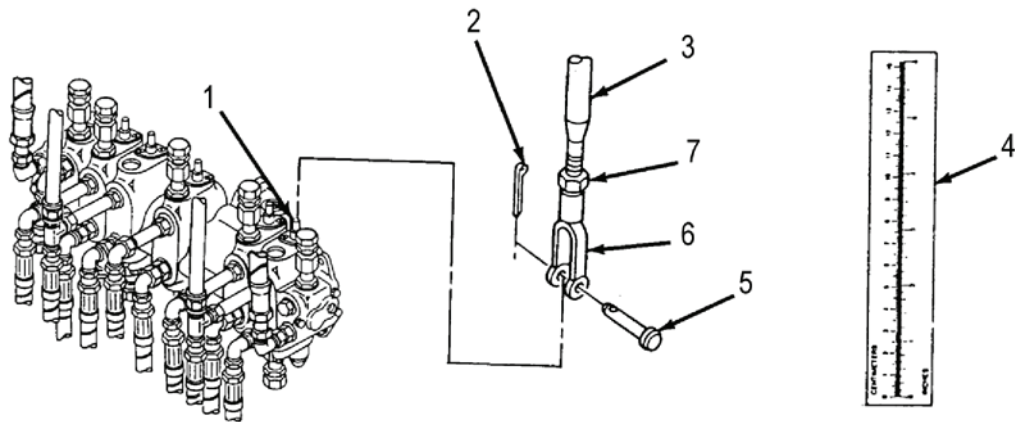

Figure 6. Sprung/Unsprung Control Valve Linkage
- Note position of control valve plunger (Figure 6, item 1) when SPRUNG/UNSPRUNG control lever is in NEUTRAL (off) position.
- Remove cotter pin (Figure 6, item 2), straight pin (Figure 6, item 5), and clevis (Figure 6, item 6) from control valve plunger (Figure 6, item 1). Discard cotter pin (Figure 6, item 2).
- Loosen jam nut (Figure 6, item 7). Turn clevis (Figure 6, item 6) clockwise to shorten rod (Figure 6, item 3); counterclockwise to lengthen rod (Figure 6, item 3).
- Hold measuring device (Figure 6, item 4) on face of SPRUNG/UNSPRUNG control valve. Have assistant move SPRUNG/UNSPRUNG lever between SPRUNG and UNSPRUNG mode. Measure distance of plunger travel. Adjust length of rod (Figure 6, item 3) travel to desired distance by turning clevis (Figure 6, item 6), as necessary.
- Coat threads of rod (Figure 6, item 3) with sealing compound primer and sealing compound. Tighten jam nut (Figure 6, item 7) against clevis (Figure 6, item 6).
- Connect clevis (Figure 6, item 6) to control valve plunger (Figure 6, item 1) with straight pin (Figure 6, item 5) and new cotter pin (Figure 6, item 2).